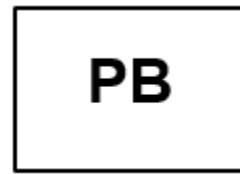

Figure 15 - PHASE
**2.201** Phase Break (PB) Indicators and PB signs (Figure 15) are located as specified in Tables 6 & 7. The PB signs are located on the first catenary pole in advance of a phase break.